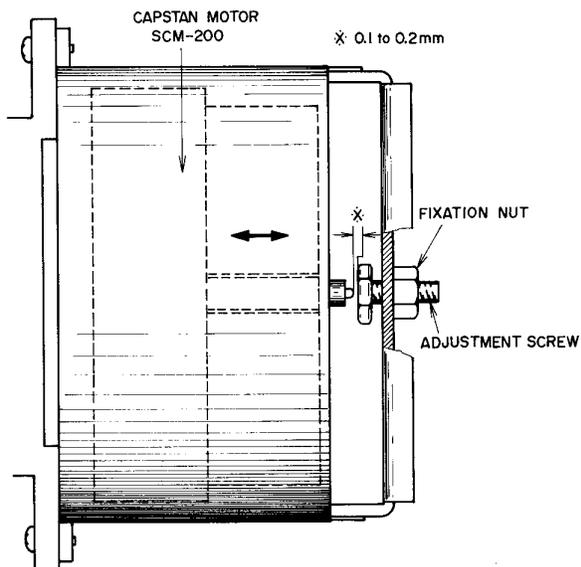

Fig. 10
5. CAPSTAN SHAFT LOOSE PLAY ADJUSTMENT (Refer to Fig. 10)